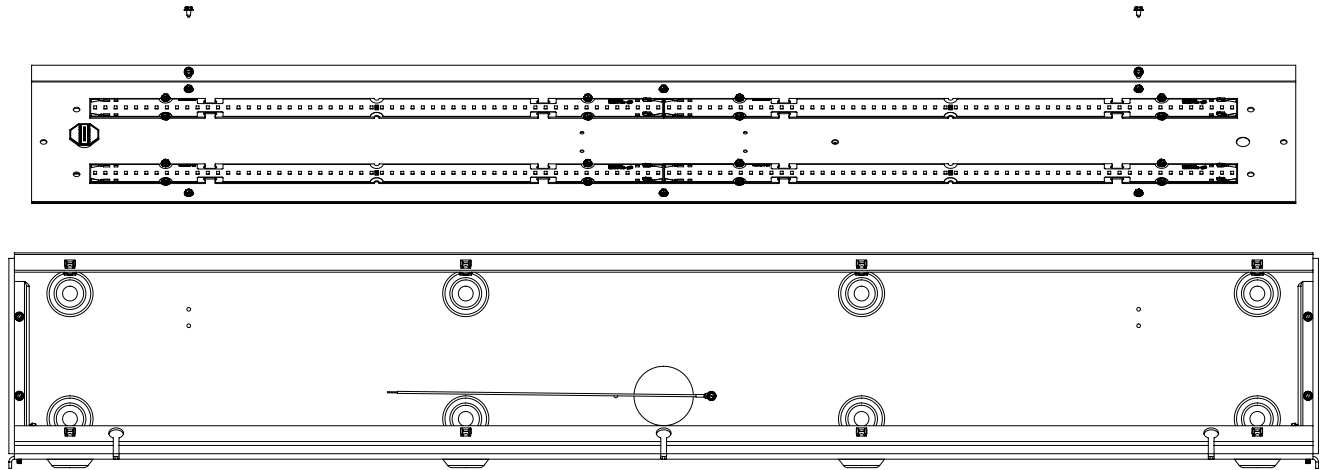

Figure 3.
Step 4. Carefully lift out the reflector assembly. Gently lay the electrical tray to the side on a protected surface. (Figure 3)